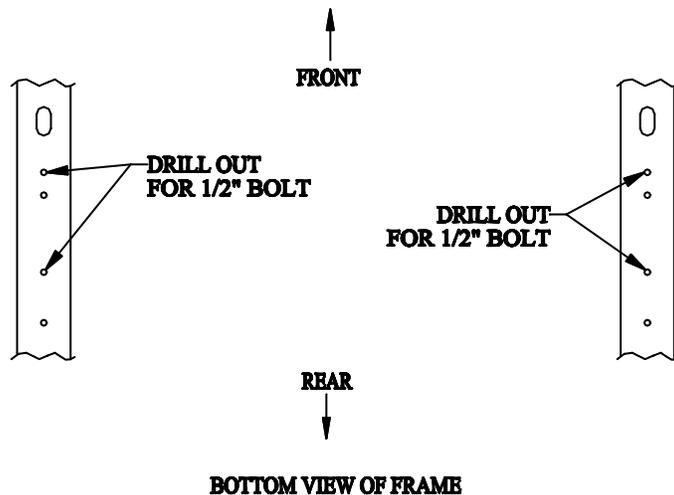

Figure 1
1. Begin by removing the (4) bolts holding the plastic skid plate to the bottom of the frame rails under the radiator. Remove the plastic skid plate.
2. Drill out the first and third holes in the bottom of the driver side frame rail for  $\frac{1}{2}$ " bolts. Refer to Figure 1. Repeat on passenger side frame rail. Also drill out the corresponding holes in the plastic skid plate removed in Step 1.
3. Assemble Driver Side Push Beam Support Plate (62B) to the bottom of the driver side frame rail. Begin by inserting a Nut Bar (103) into the frame rail through either the slot in the side wall or the slot in the bottom wall. Align bottom hole in Push Beam Support Plate (62B) with hole in frame and Nut Bar (103). Replace the plastic skid plate over the bottom plate on Driver Side Push Beam Support Plate (62B). Insert one  $\frac{1}{2}$ "-13 x 1-1/2" Hex Head Bolt (A) and one  $\frac{1}{2}$ " Split Lock Washer (C). Repeat on the second hole in the bottom of Push Beam Support Plate (62B). Leave hardware finger tight.